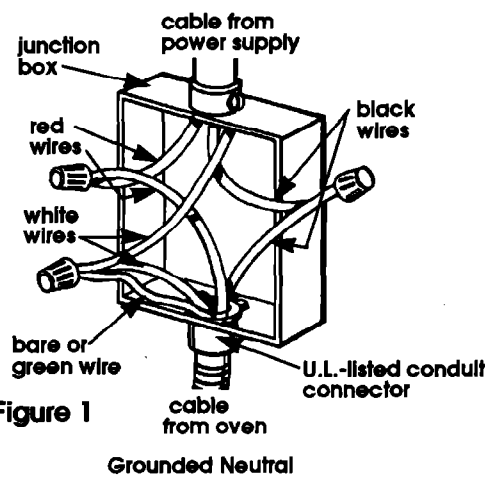

Figure 1
4. Connect the two black wires together; then connect the two red wires together with wire connectors. See Figure 1.